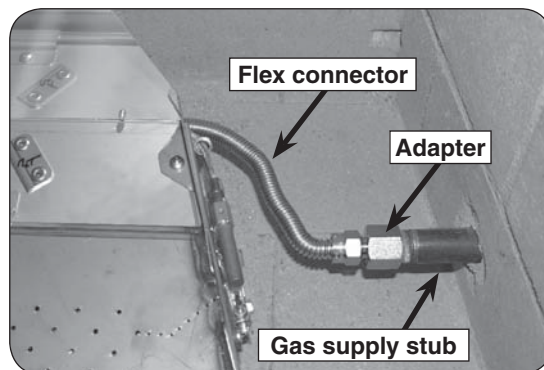

Fig. 8-1 Connect gas supply
2. Locate the gas-supply stub inside the fireplace and remove the cap, if attached (reference Fig. 8-1).
4. **Be sure gas to the fireplace is off.** Remove the adapter that is loosely connected to the flex connector (coming off of the burner system). Attach the adapter to the gas-supply stub using a pipe compound resistant to all gasses. Tighten securely. Then attach the open end of the flex connector to the adapter. Tighten securely. (See Fig. 8-1.)